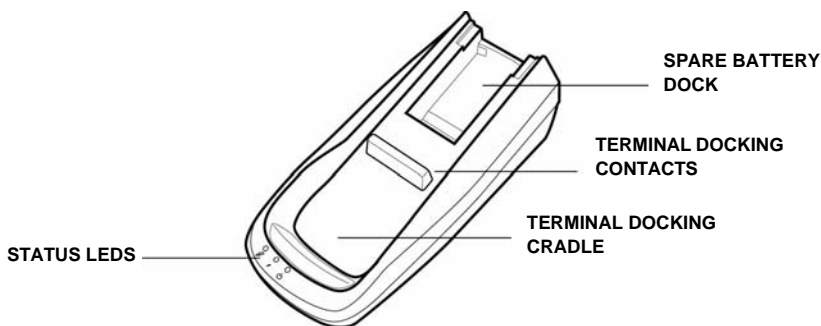
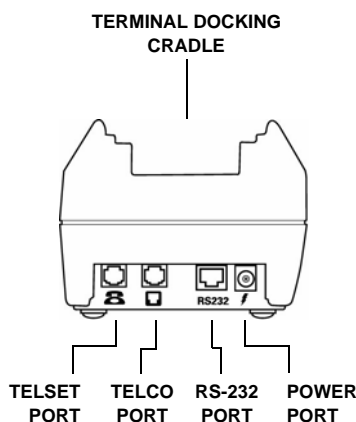

Figure 21 Omni 3600 Base Features: Top
Figure 22 Omni 3600 Base Features: Back (Telco models)
The following are the physical features of the Omni 3600 base (Figure 21 and Figure 22):
- Docking cradle: For Omni 3600 terminal (Figure 21) smart battery recharging and data transfers.